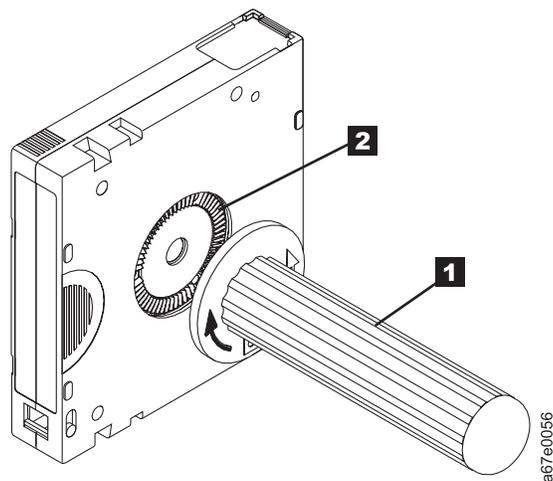

Figure 10. Rewinding the tape into the cartridge
5. To rewind the tape, insert the cartridge manual rewind tool (**1** in Figure 10) into the cartridge's hub **2** and turn it clockwise until the tape becomes taut.